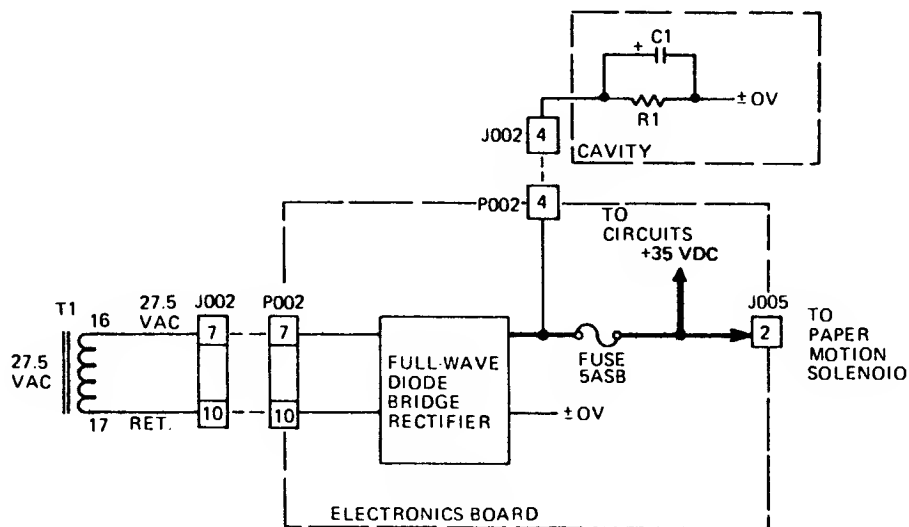

Figure 2-9. +35 VDC POWER SUPPLY
2.8.3 +35VDC POWER SUPPLY (Figure 2-9)